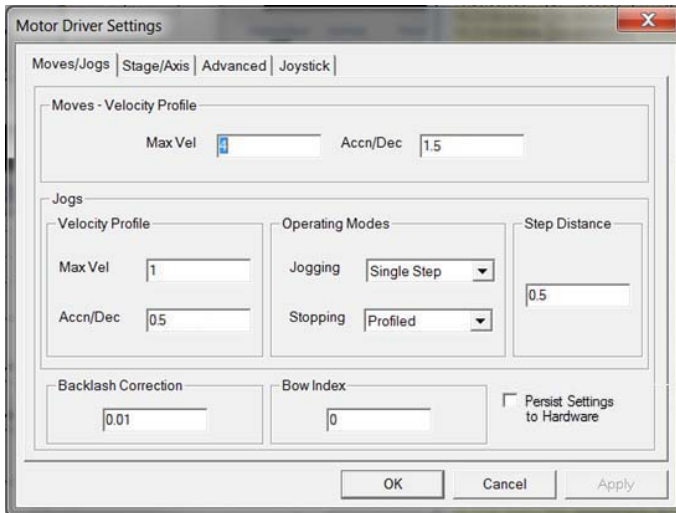

Fig. 4.4 Settings Panel - Move/Jogs Tab
- 2) Select the Move/Jogs tab as shown in Fig. 4.4.